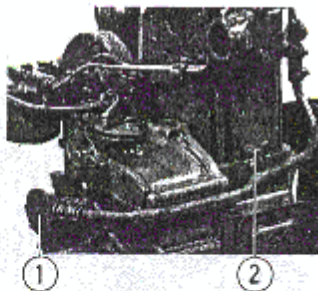

Fig. 6. Cooling water draining.
1. Open the drain cock on the starboard side of the cylinder block (2, Fig. 6).
2. Shut the sea-cock, loosen the cover on the sea-water pump (1) and make sure that the pressure pipe for the cooling water is drained.